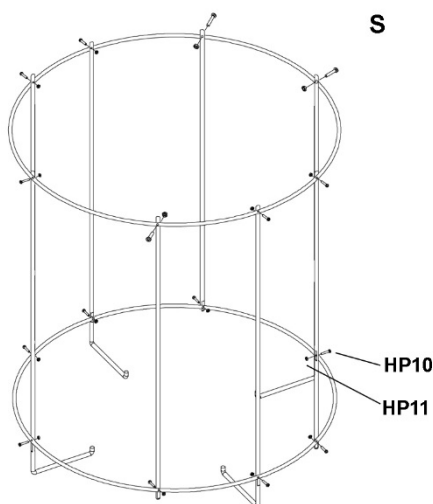

Figure 13
19. Screw the short and long frame supports into the hoops in alternating manner, as shown in Figure 13. Secure with sixteen pan head screws and hex nuts (HP10, HP11). (Note: The bends on long supports point inward as shown.)